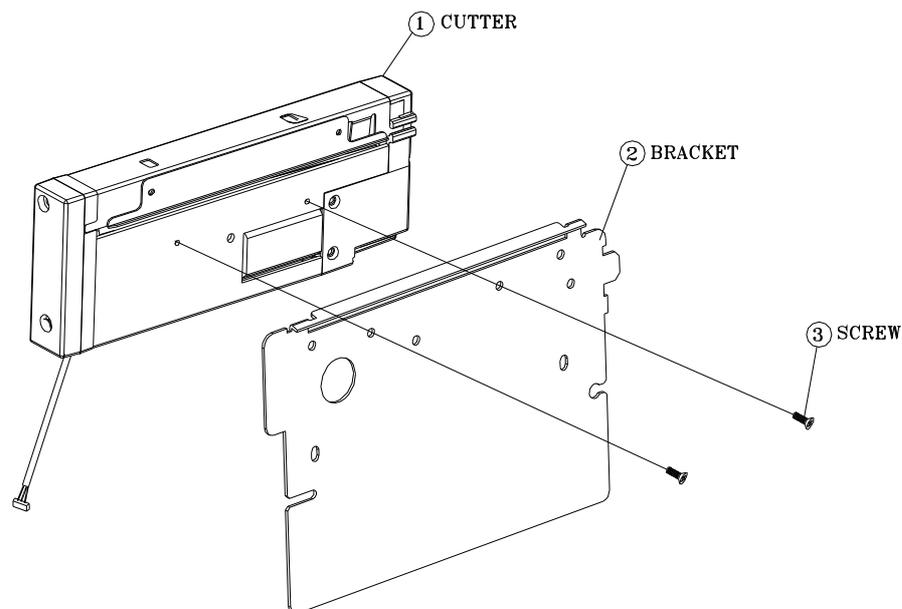

Figure 7.1
4. Secure two screws (3) to fix cutter (1) on bracket (2) (Figure 7.1).